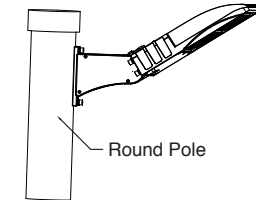

Figure 5-2
2. This mounting bracket can also be used to install the fixture to round pole. (Figure 5-2)